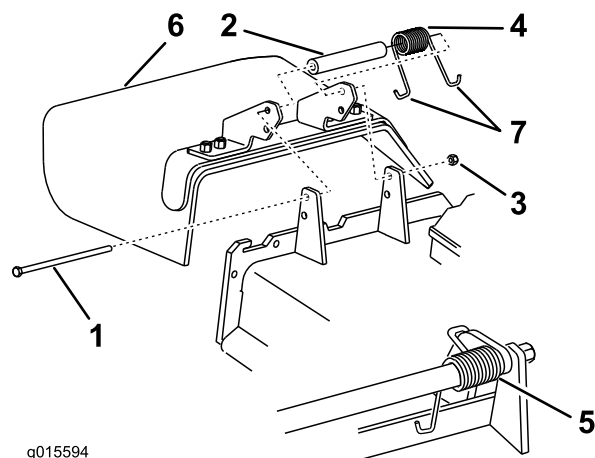

Figure 99
1. Remove the locknut, bolt, spring, and spacer holding the deflector to the pivot brackets (Figure 99).
2. Remove the damaged or worn grass deflector (Figure 99).
Note: Make sure that 1 J-hook end of the spring is installed behind the deck edge before installing the bolt as shown in Figure 99.
6. Place 1 J-hook end of the spring around the grass deflector (Figure 99).